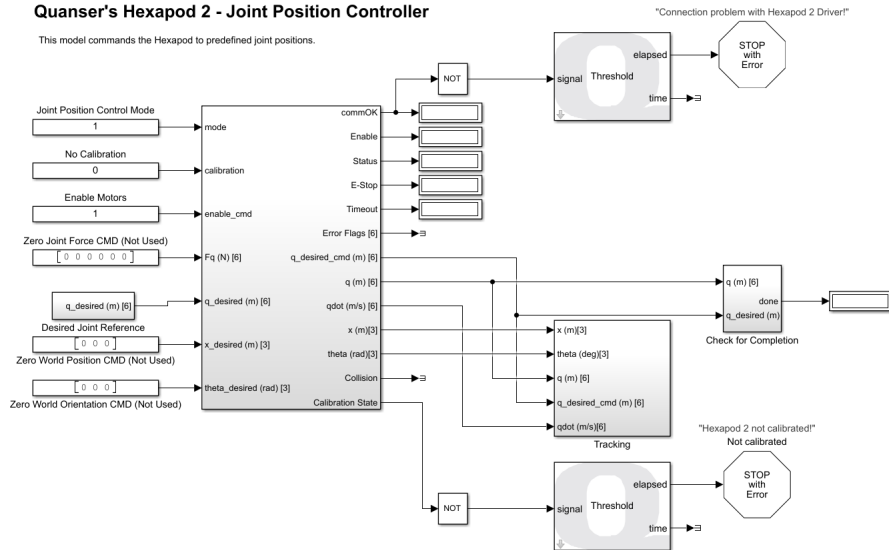

Figure 2.4: Simulink model used to command joint-level positions to the Hexapod using QUARC.
This Hexapod2\_Controller\_Joint controller shown in Figure 2.4 applies position commands to the base-level linear actuators. The user can specify the amplitude and frequency of the sine wave on-the-fly and read corresponding position measurements.
3. Open the Simulink model called Hexapod2\_Controller\_Joint, shown in Figure 2.4.